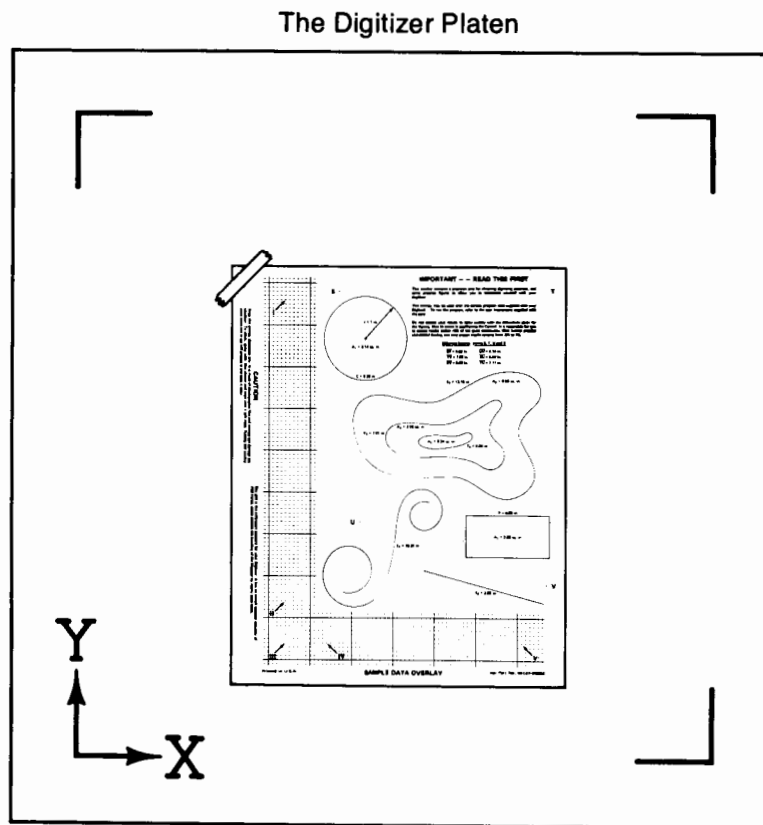

Figure 4. Initial Placement of the Sample Data Overlay
2. Referring to Figure 4, place the Sample Data Overlay on the digitizing area. Place a single piece of tape across the upper left-hand corner of the overlay. Prepare three other short pieces of tape for the other corners; they will be used later.